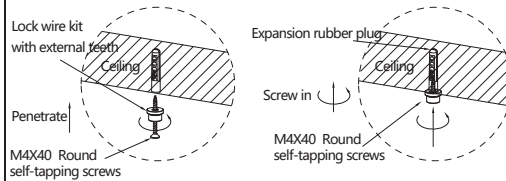

Figure 2
Step 2: Insert the M4X40 self-tapping screw of Fig. 2 into the lock wire kit (the part with external thread), then screw the screw into the white expansion rubber plug that has been inserted into the ceiling. As (Figure 2)